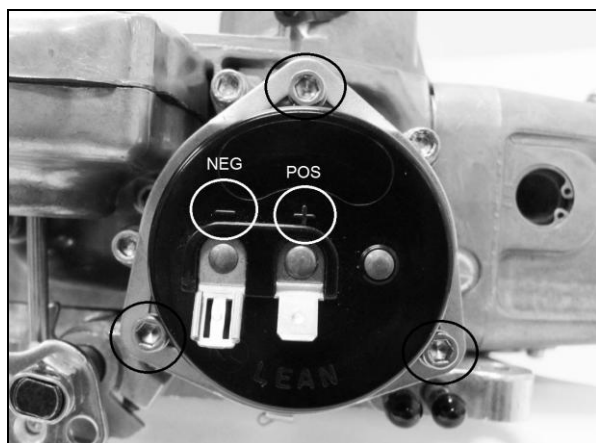

Figure 13
12. With the choke installed onto the carburetor, re-install the carburetor to the engine. Now, run a wire from a switched +12V source to the connection on the pod cover marked with a (+). Run a second wire from the terminal marked (-) to a good ground. See Fig. 13.